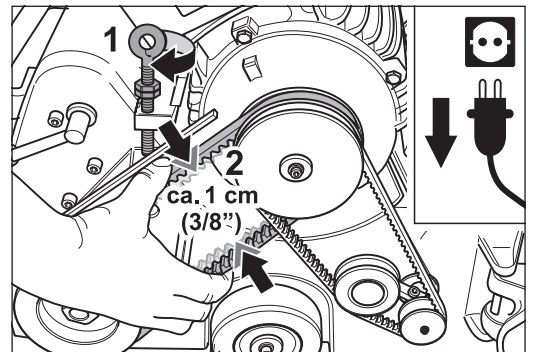

Fig. 63 Tension the drive belt using the tensioning bolt at the motor (1).
- 10 Mount the new V-belts and tension the drive belt using the tensioning bolt at the motor (Fig. 63, 1).
The slack on the V-belt should be approx. 1 cm (3/8") if compressed with normal effort (Fig. 63, 2).